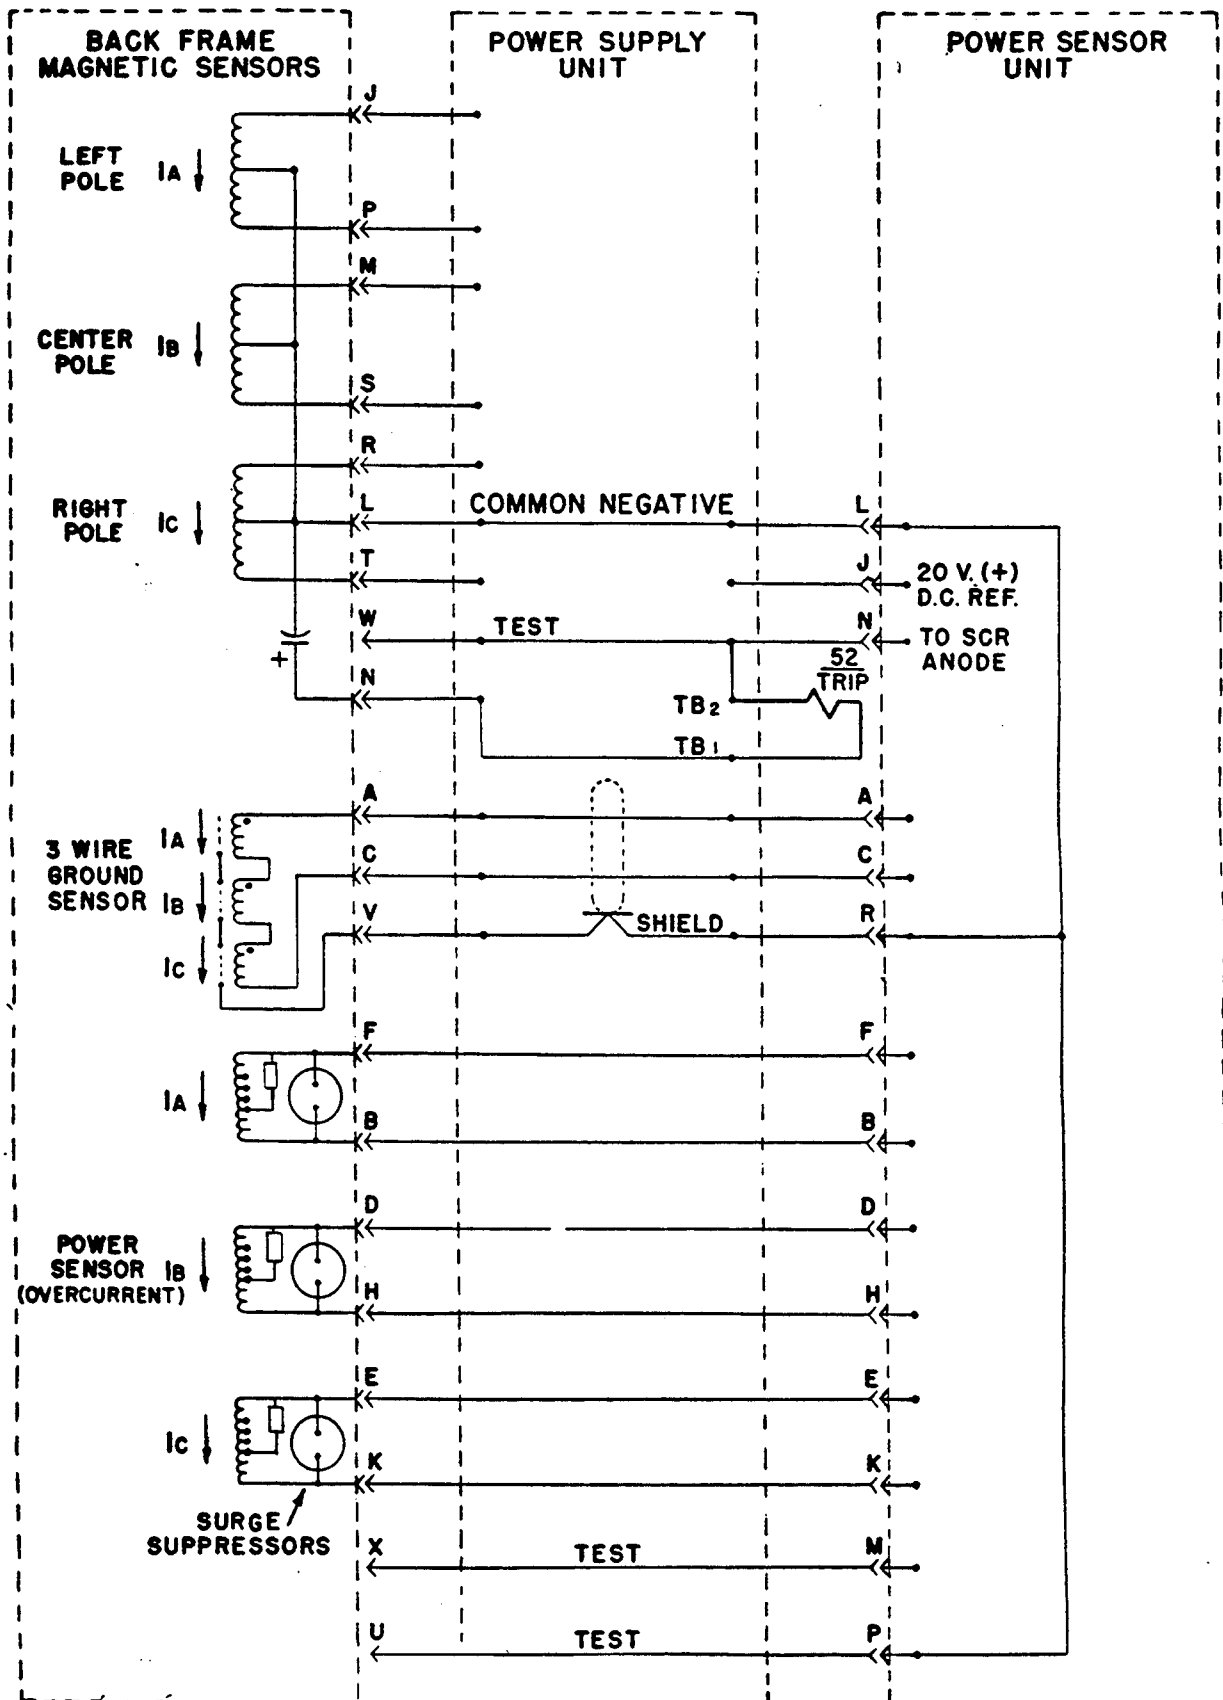
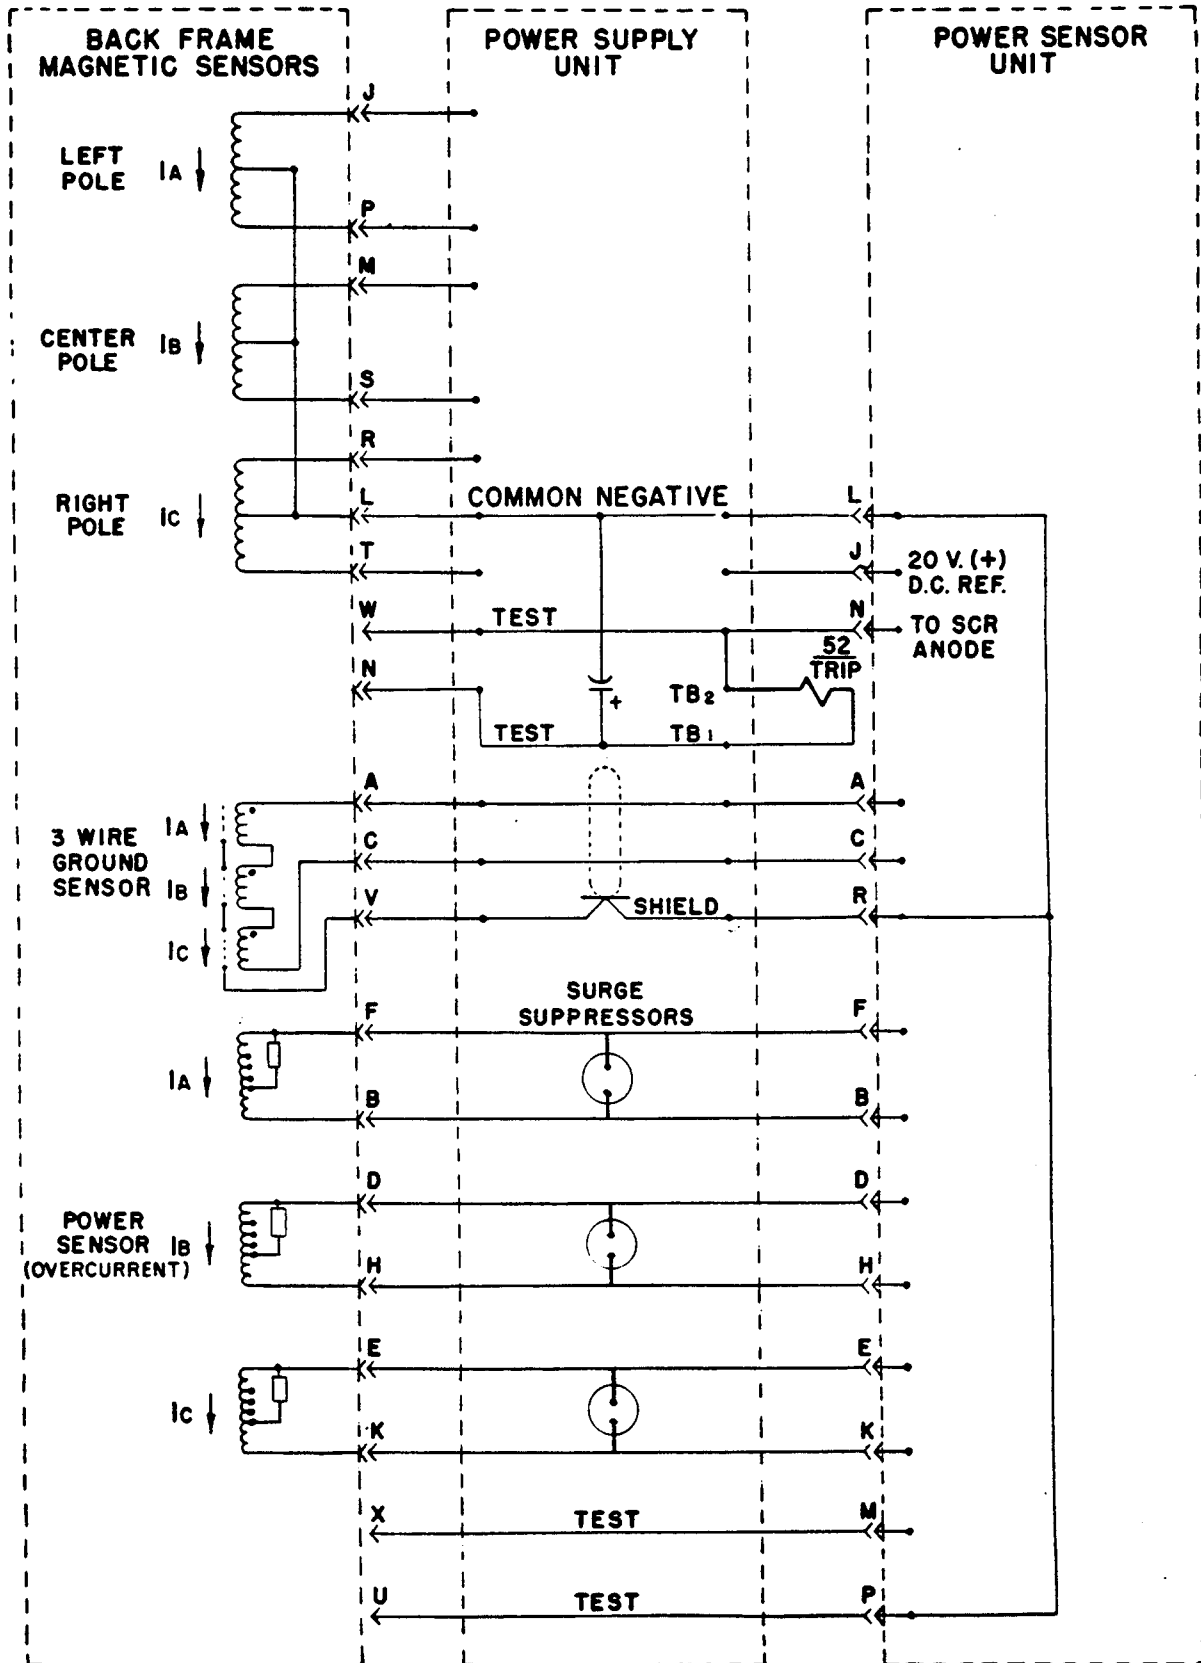

Figure 6. (133C9017-3) Power Sensor Cabling Diagram Drawing
Figure 7. (133C9018-3) Power Sensor Cabling Diagram Drawing
plug between the power supply section and the logic unit, shown on drawing 133C9018, Figure 7 page 12, so that the actual output of the CT's and the power supply can be displayed on an oscilloscope while the circuit breaker is in service.
2. Power Sensor Cabling Diagram Drawing #133C9017 (Figure 6), and #133C9018 (Figure 7) on pages 11 and 12 of this manual.